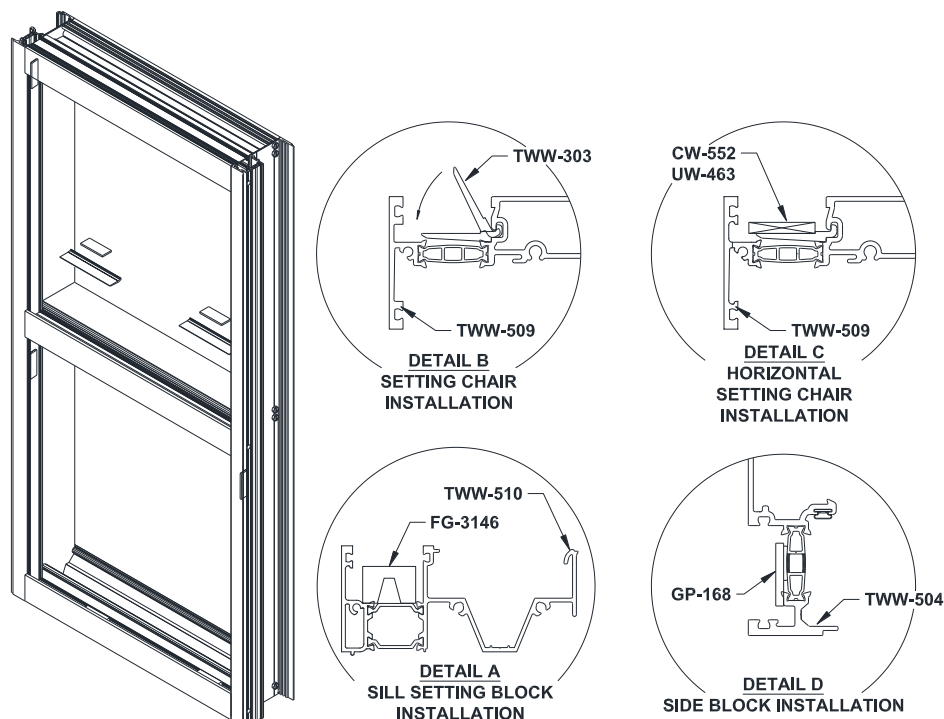

Figure 38: Setting Block Installation
- 14.1 Install Setting Blocks at Sill per shop drawings; depending on the glass size, Setting Blocks will be located at either 1/4 points or 1/8 points. *Figure 38* shows Setting Block installation at Sill.
- 14.2 Install Setting Chair at Horizontal per shop drawings; depending on the glass size, Setting Chairs will be located at either 1/4 points or 1/8 points to support Setting Blocks. *Figure 38* shows Setting Chair installation at Horizontal.
- 14.3 Install Setting Blocks on top of Setting Chairs at Horizontal per shop drawings; depending on the glass size, Setting Blocks will be located at either 1/4 points or 1/8 points. *Figure 38* shows Setting Block installation at Sill and Horizontal.